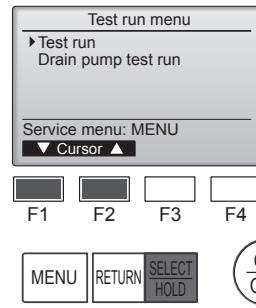

Fig. 7-2
- Select "Test run" from the Test run menu, and press the [SELECT/HOLD] button. (Fig. 7-2)